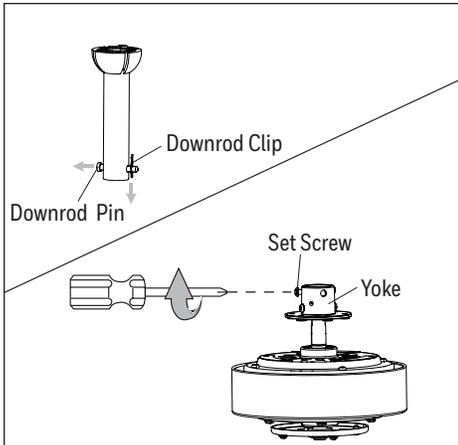

Figure 3.1
1. Remove the downrod clip and downrod pin from the downrod. Then, loosen but don't remove the two set screws at the top of the yoke (Figure 3.1).